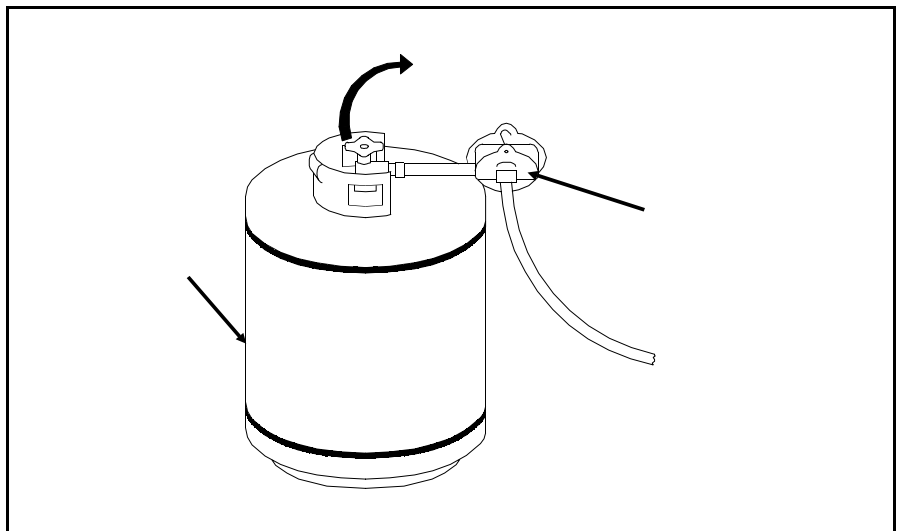

Figure 5.36 Main Gas Valve Check
- 33. Make sure the main line LP gas is on as shown in Figure 5.36.